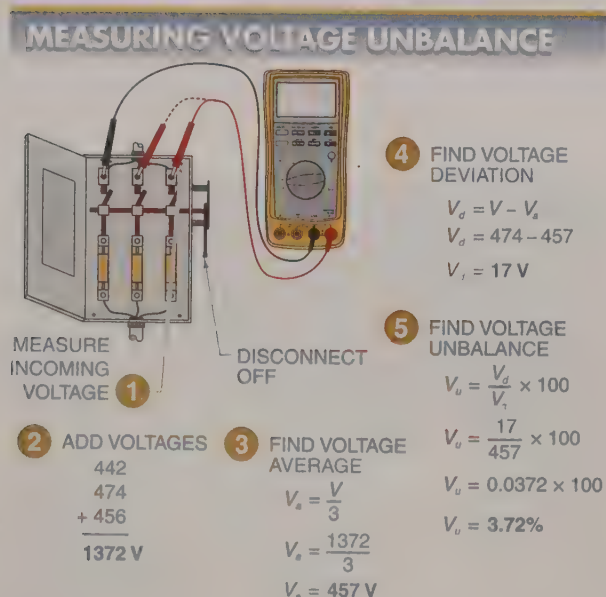

Figure 28-41. Voltage unbalance is the unbalance that occurs when the voltages at different motor terminals are not equal.
1. Measure the voltage between each incoming power line. The readings are taken from L1 to L2, L1 to L3, and L2 to L3. See Figure 28-41.